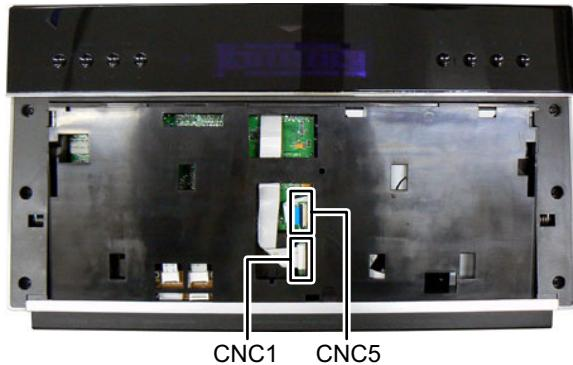

Fig.1
#### 3.1.2 Removing the Top cabinet (See Fig.1,2, 3, 4)
- (1) Disconnect the card wire from DVD MPEG board connected to connector CNC1 and CNC5 of the Connect board. (See Fig.1)